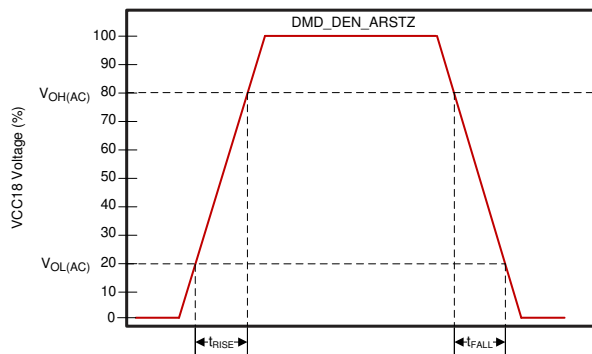
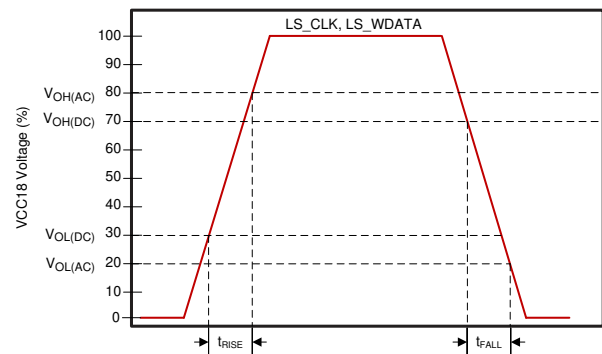

Figure 6-3. DMD_DEN_ARSTZ Slew Rate
Figure 6-4. LS_CLK and LS_WDATA Slew Rate
- (1) $V_{OH(AC)}$ maximum applies to overshoot. When the DMD_LS_WDATA and DMD_LS_CLK lines include a proper 43-Ω series termination resistor, the DMD operates within the LPSDR input AC specifications.
- (2) $V_{OL(AC)}$ minimum applies to undershoot. When the DMD_LS_WDATA and DMD_LS_CLK lines include a proper 43-Ω series termination resistor, the DMD operates within the LPSDR input AC specifications.
- (3) See Figure 6-4 for DMD_LS_CLK, and DMD_LS_WDATA rise and fall times. See Figure 6-3 for DMD_DEN_ARSTZ rise and fall times.